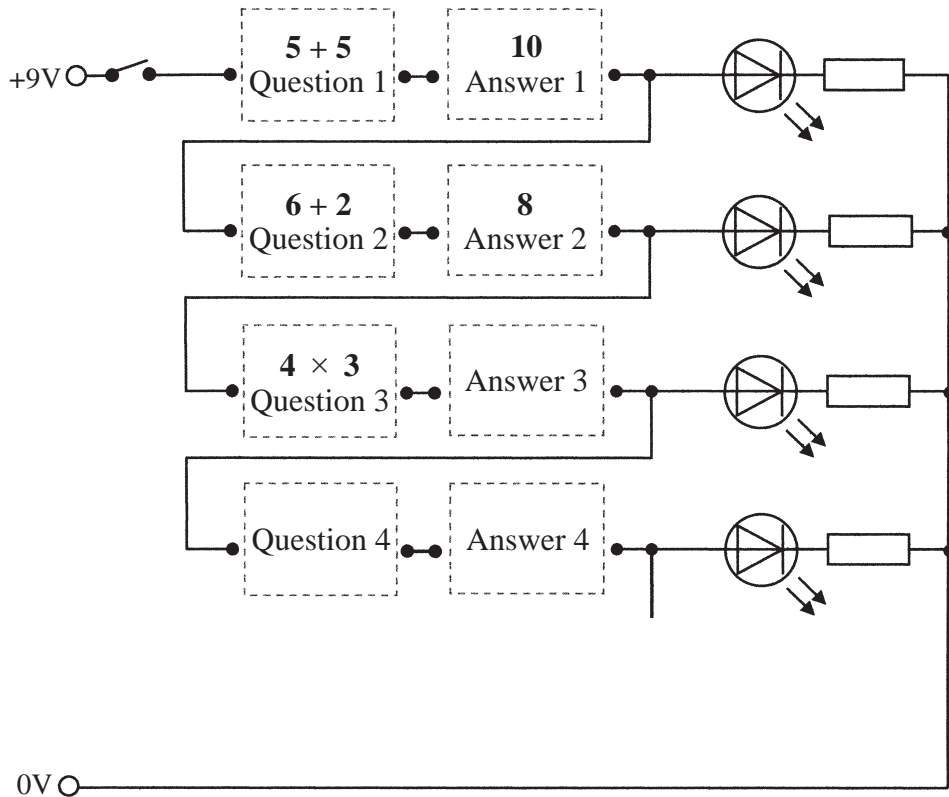

Figure 14
(d) **Figure 14** shows the incomplete circuit for the toy.
- (i) Complete **Figure 14** by adding a buzzer that will sound when **all four** questions have been answered correctly. (2 marks)